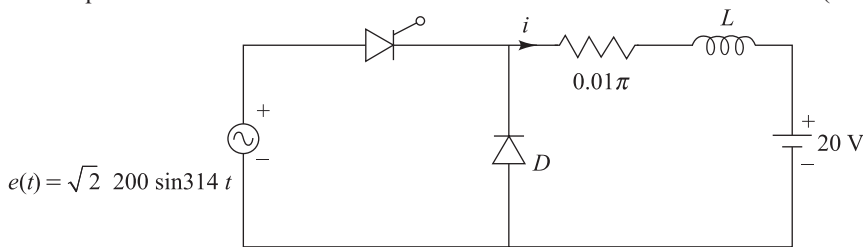

Fig. MCQ. 6.42
- 6.42** In the circuit shown in Fig. MCQ. 6.42, L is large and the average value of 'i' is 100 A. The thyristor is gated in the _____ half cycle of 'e' at a delay angle α equal to _____ (G 92)